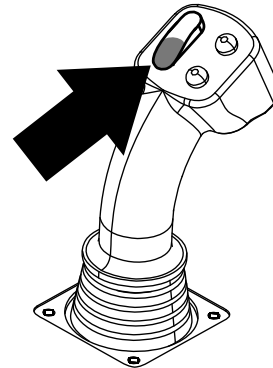
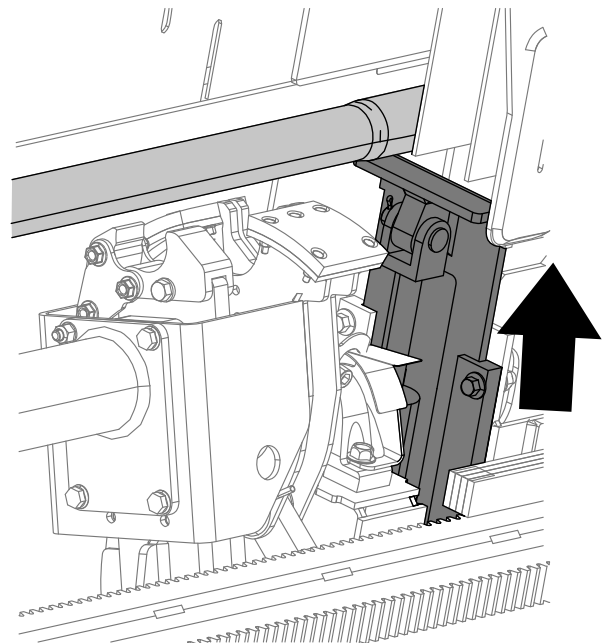

Figure 20
Figure 21
11. Hold the lower section of the rocker switch (Figure 20) until the elevator puts the pipe back in the pipe box and the cam rotates to the home position (Figure 21).